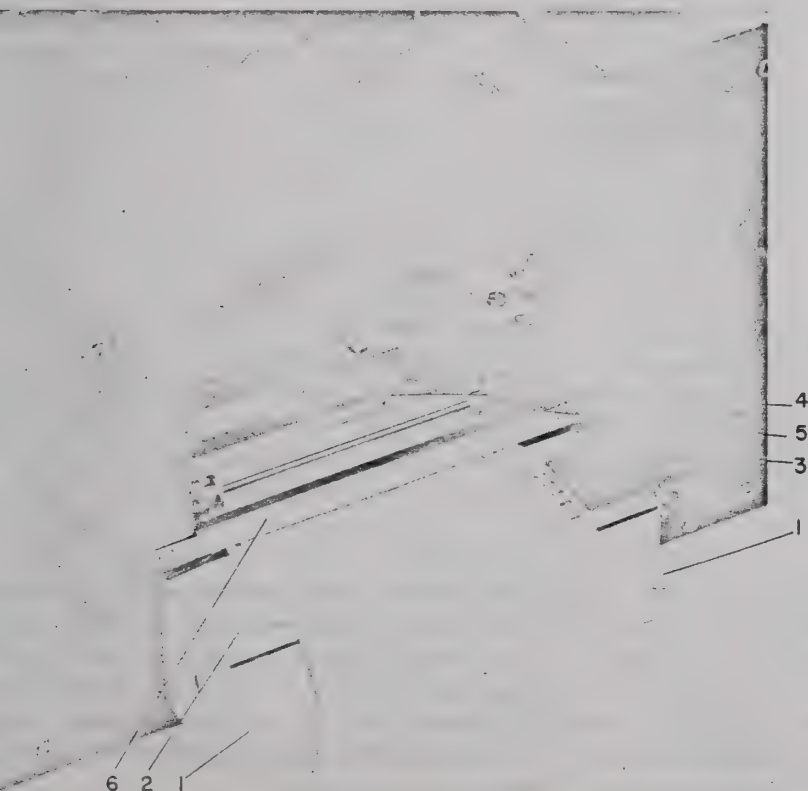

Figure 2.1. Front Oblique View of Recorder.
PAPER LOADING (Refer to Figure 2.1). To load the recorder with paper, proceed as follows:
1. Remove the two thumb screws (1, Figure 2.1), and the paper cover (2).
2. Pull out the spring-loaded paper knob (3), and in-
potentiometers can be installed without removing the instrument from its case. When changing potentiometers, remove the unit to be replaced as follows: Disconnect the input plug (8, Figure 2.1) and loosen the thumb screws (7) enough to free the potentiometer. Remove the potentiometer by withdrawing it from the opening in the front panel. On linear potenti-
a. Set the potentiometer selector switch (9) to the position corresponding to the potentiometer being installed. The pins at the rear of the potentiometer case are guide pins that clear the selector switch only if it is set properly.
b. Move the input plug and cable out of the way, and insert the potentiometer through the panel opening. Two locating pins on the bottom of the potentiometer and mating holes in the shelf assure proper seating of the unit. When the potentiometer is in place (see Figure 2.1), tighten the thumb screws (7) and connect the input plug (8). With a linear potentiometer, connect the Jones plug in the mating socket (10, Figure 2.2).
4. Remove the two motor mounting screws and lock washers (2).
5. Remove the motor (3).
POWER CORD. Connect the power cord to the plug connector at the rear of the recorder (4, Figure 2.1). A small nameplate (5) to the right of this connector indicates the voltage and frequency for which the recorder is wired. A good ground connection should be made by connecting the third conductor of the power cable to the ground terminal to prevent pickup.